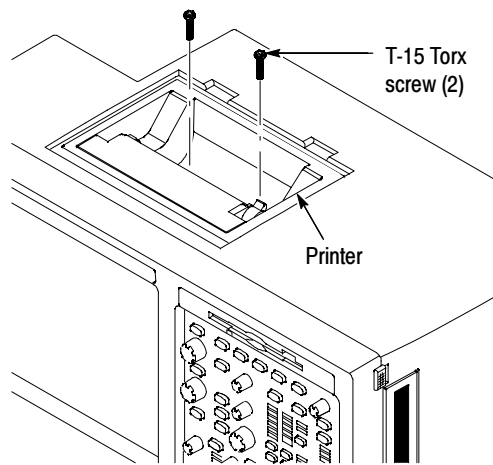

Figure 2: Printer screw mounting
- b. Remove the accessory tray or internal printer (two T-15 Torxdrive screws). See Figure 2, on page 10.